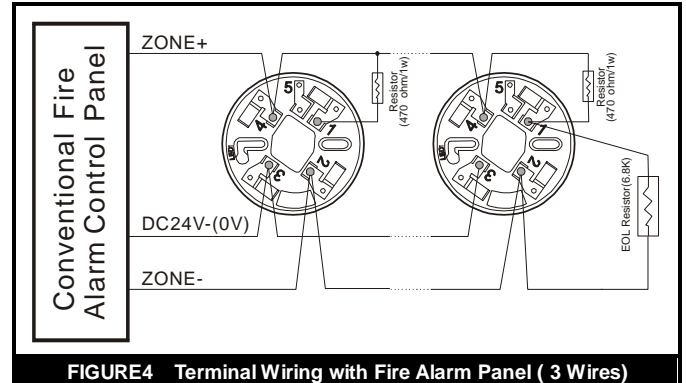
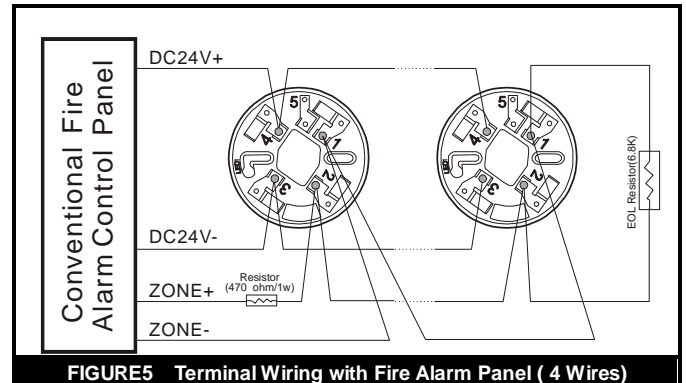

FIGURE4 Terminal Wiring with Fire Alarm Panel ( 3 Wires)
FIGURE5 Terminal Wiring with Fire Alarm Panel ( 4 Wires)
6. The detector can be connected with conventional alarm panel as Figure 4 or Figure5. One 470 ohm resistor should be used.